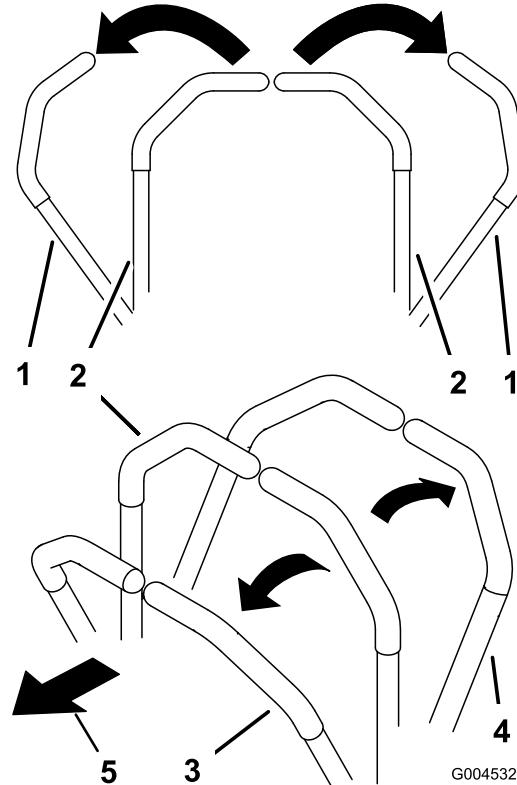

Figure 18
2. To go forward, slowly push the motion-control levers forward (Figure 18).
To go straight, apply equal pressure to both motion-control levers (Figure 18).
To turn, release pressure on the motion-control lever toward the direction you want to turn (Figure 18).